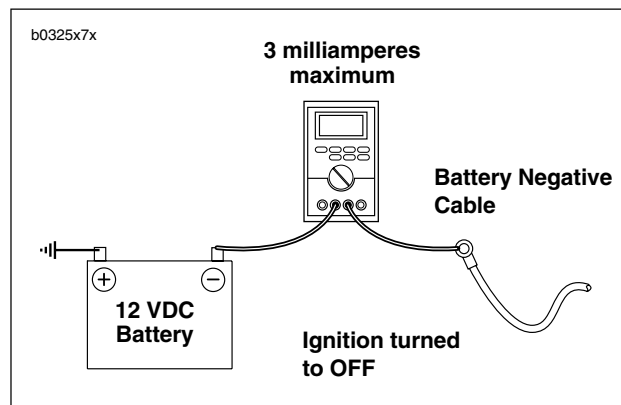

Figure 7-17. Milliampere Draw Test
1. See Figure 7-17. Connect ammeter between negative battery terminal and battery. With this arrangement, you will also pick up any regulator drain.